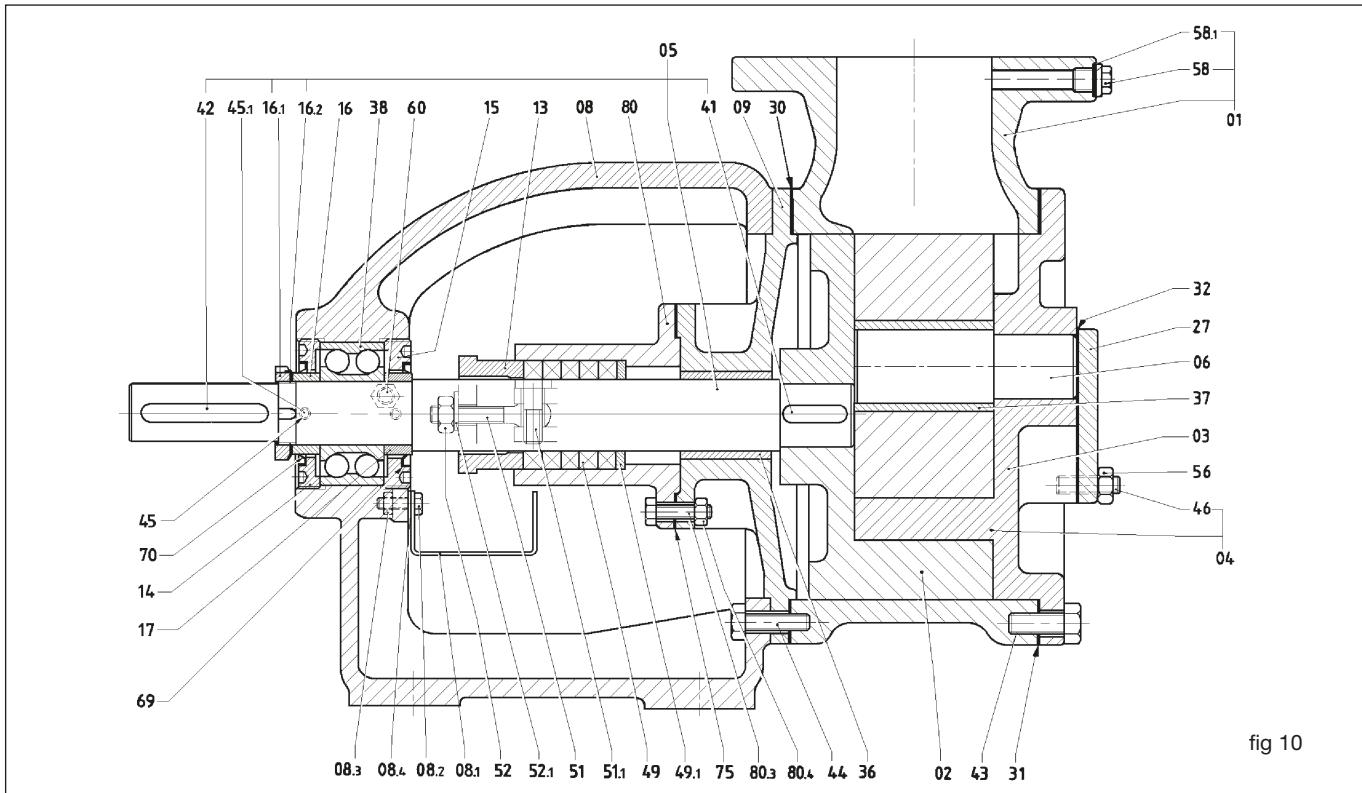

fig 10
### 11.1 Removing the cover (04) (see fig. 10)
- Unscrew the screws (43). Use the two threaded holes on the cover (if present) to facilitate removal of the cover.
- When removing the cover, take care not to damage the gasket (31). If this is damaged it should be replaced. Do not use damaged gaskets or gaskets with a thickness different from that of the original gasket (01).
- Attention:** when the cover is removed, the idler may fall off the idler pin (06) if it is not held. This is a potential cause of accidents.
### 11.2 Removing the idler (03) (see fig. 10)
- Slip the idler off the idler pin (06). The idler bush is fitted to the centre of the idler (37). (Some versions do not have an idler bush and mount a large diameter pin.)
### 11.3 Removing the idler pin (06) (see fig. 10)
#### 11.4 Removing the casing (01) (see fig. 10)
- Remove the screws (44).
- Disengage the casing from the rear cover (09) taking care not to damage the gasket. If the gasket is damaged, replace it.
- The rear cover remains centred on the pedestal (08).
#### 11.5 Removing the ball bearing (38) (see fig.10)
- Remove the key (42) from its seat on the shaft (05).
- Loosen the safety dowels (45).
- Remove the outer bearing cover (14) and the sleeve (16)
- Block the rotor (02) to prevent the shaft from turning.
- Force the shaft out of the bearing using a press. If a press is not available, use a bearing extractor. Bear in mind that the rotor (02), the rear cover (09) and the seal box (80) will also be removed together with the shaft.
- Unscrew the grease nipple (60), remove the inner bearing cover (15) and force the bearing out of the pedestal (08).
### 11.12 Removing the shaft bush (36 fig.10)
### 12.1 Mounting the ball bearing (38) fig. 10
- Clean the seat on the pedestal (08) thoroughly.